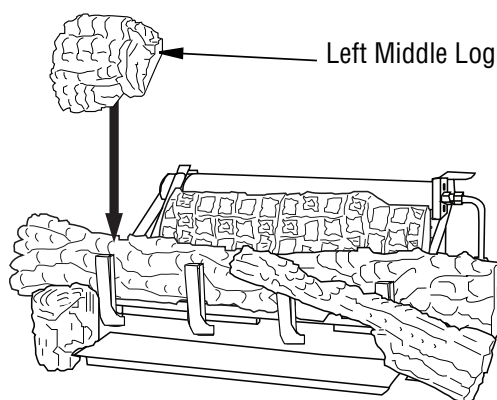

Figure 42 - Installing Left Middle Log
- The left middle log (18" D-066, 24" & 30" D-040) has a groove on the bottom to sit on the chassis and has to sit on the tab on the back of the left front log as shown in **Figure 42**.